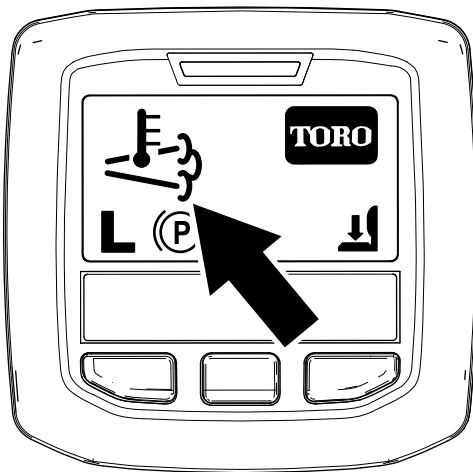

Figure 68
- The high exhaust-temperature icon  displays in the InfoCenter (Figure 68).